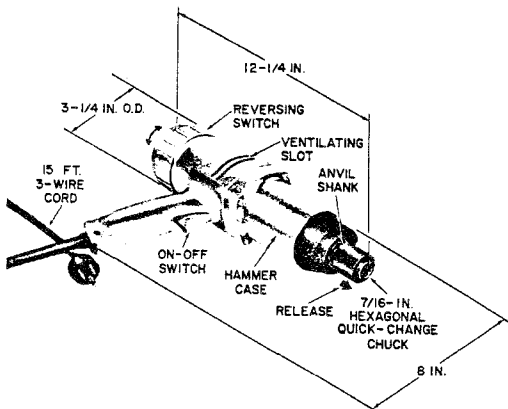
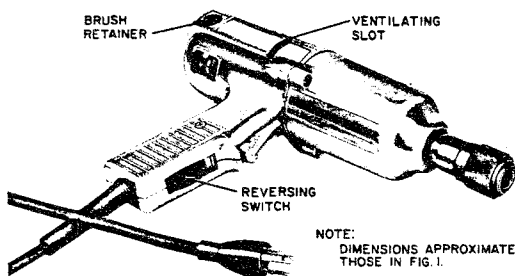

Fig. 1—B Impact Wrench With End Cap Reversing Switch
Fig. 2—B Impact Wrench With Reversing Switch in Handle
- 3.03 The life of the motor of these tools depends upon proper lubrication and ventilation. Be sure the ventilating slots (Fig. 1, 2, and 3) are clean.
4.06 Before using the wrench, place a few drops of machine oil around the shank of the anvil (Fig. 1) where it emerges from the bushing at the front of the hammer case. Hold the wrench with the chuck uppermost.
- 7.04** When changing the direction of rotation, make sure that the reverse cap (Fig. 1) is turned as far as it will go or reversing switch (Fig. 2 and 3) is fully operated.
- 7.12** Always check the shank to make sure it is not bent out of line with the B socket (Fig. 2). The B socket should be checked for excessive wear. If the B socket shows excessive wear, replace the B socket.